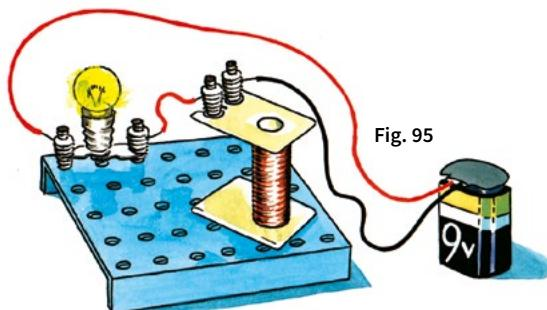

Fig. 95
1. Take an electric bulb, a coil and a battery to close the electric circuit as shown in fig. 95. The bulb will glow very faintly. It is clear that less current flows through the long and thin wire of the coil than through the much thicker and shorter connecting wire. If the coil is removed from the circuit, the electric bulb will glow at full brightness. The conductor offers resistance to the current. Make similar experiments with the galvanoscope and rotor coil.